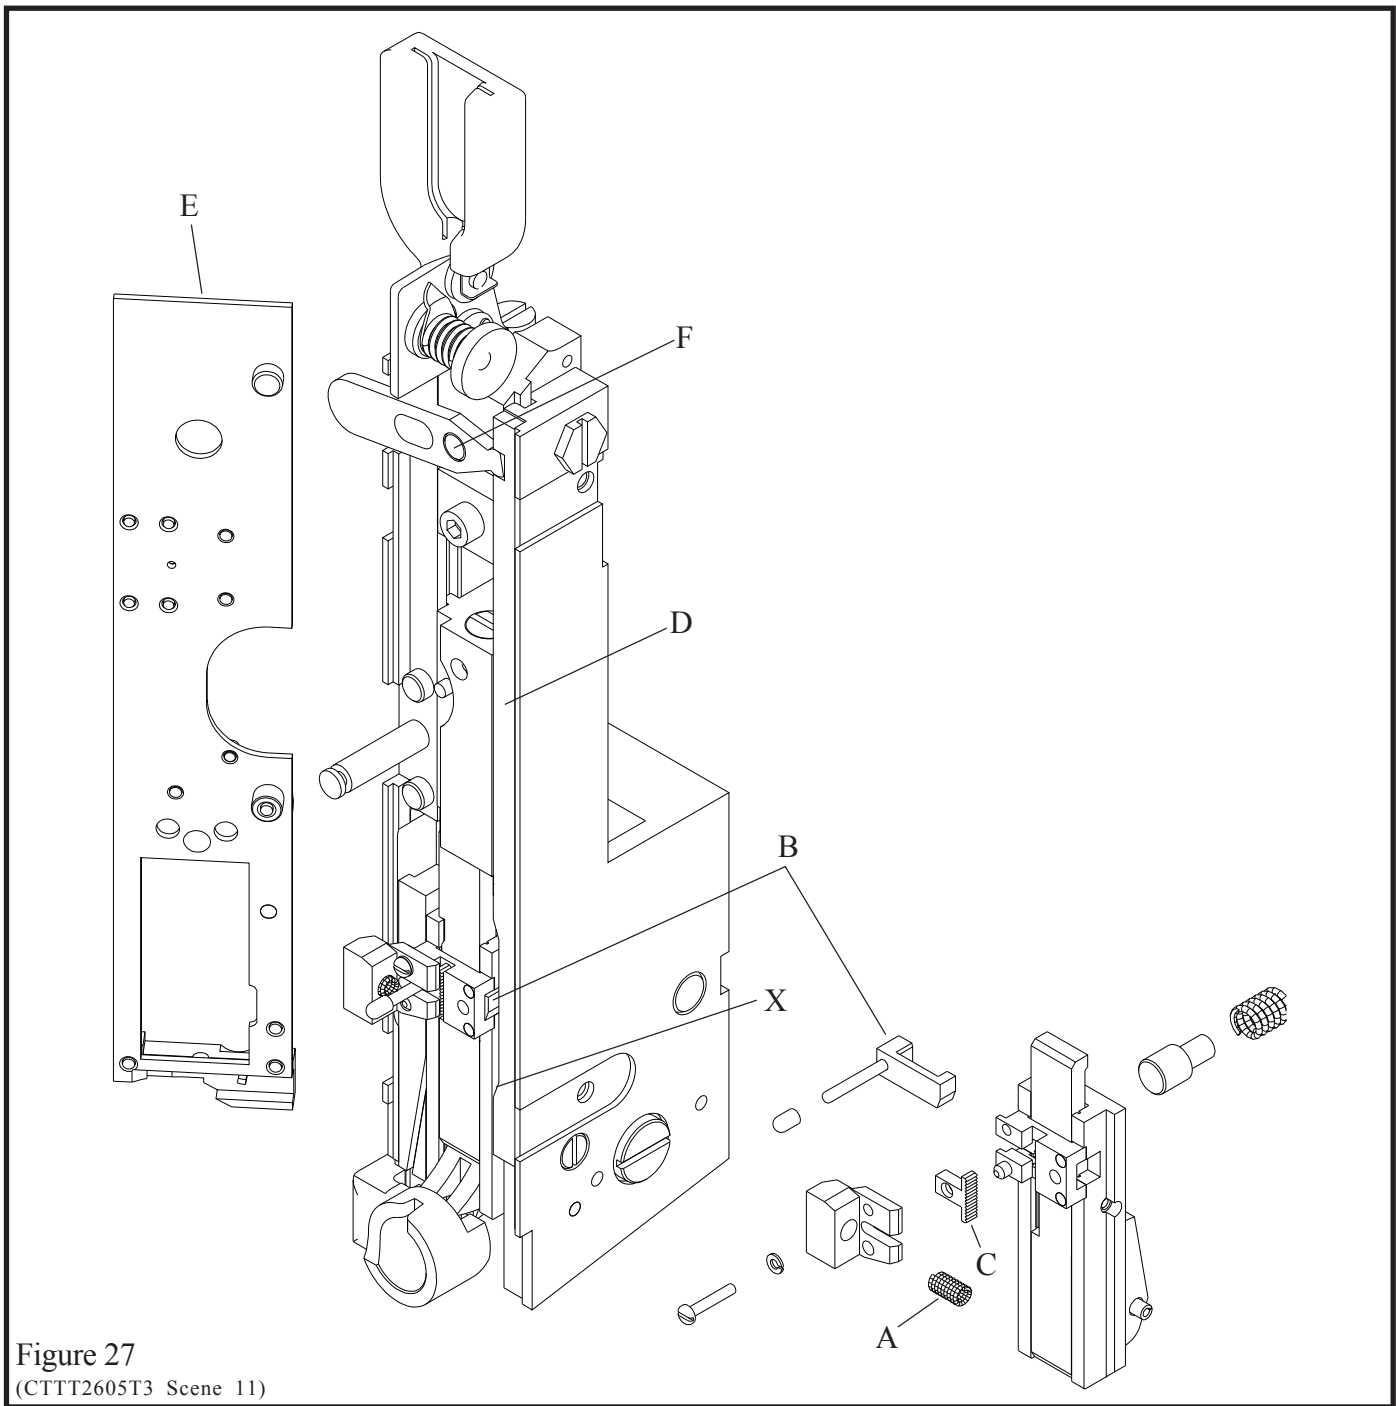

Figure 27
K. Grip, Grip Release Slide and Face Plate: (Figure 27)